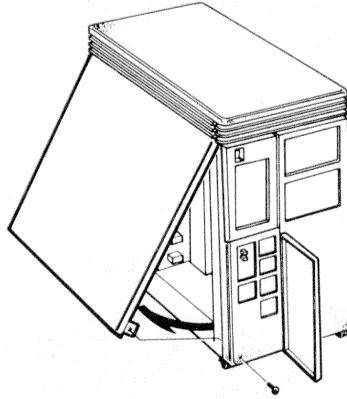

Figure 6-5 Left Side Panel Removal
5. Lift the panel slightly to release it from the lip at the top of the frame and remove the panel. (Figure 6-5)